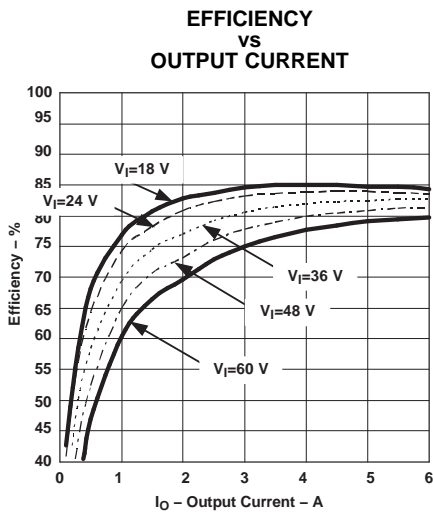
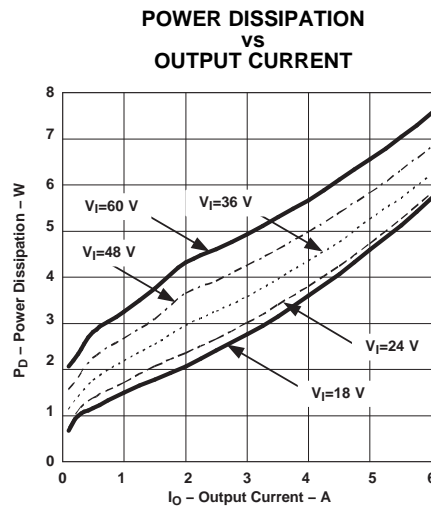

Figure 11.
Figure 12.
- (5) All data listed in Figure 11, Figure 12 have been developed from actual products tested at 25°C. This data is considered typical data for the dc-dc converter.